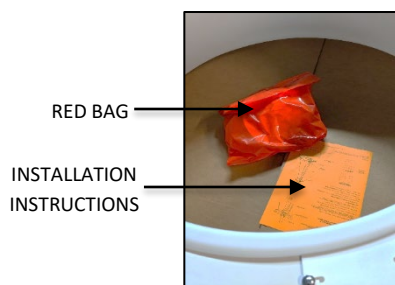

FIG.6 RED BAG AND
3. INSTALLATION INSTRUCTIONS (shown in FIG. 6) - Please completely read the install instructions before starting installation.
4. RED BAG (shown in FIG. 6)